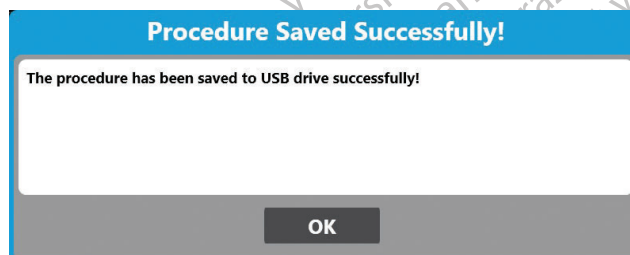

Figure 30. Procedure successfully saved window
**Note:** Once the file has successfully been exported to the USB drive, the Procedure Saved Successfully window will be displayed (Figure 30).